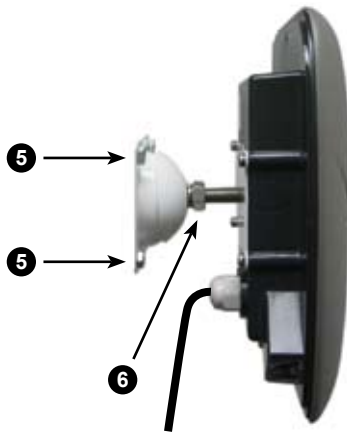

Figure 4-2 Wall Mounting
5. Place the mounting plate over the Anchor bolts already inserted onto the wall and secure them with the 4 M8 mm Anchor HEX nuts provided. Use the washer between the nut and the bracket (see Figure 4-2).